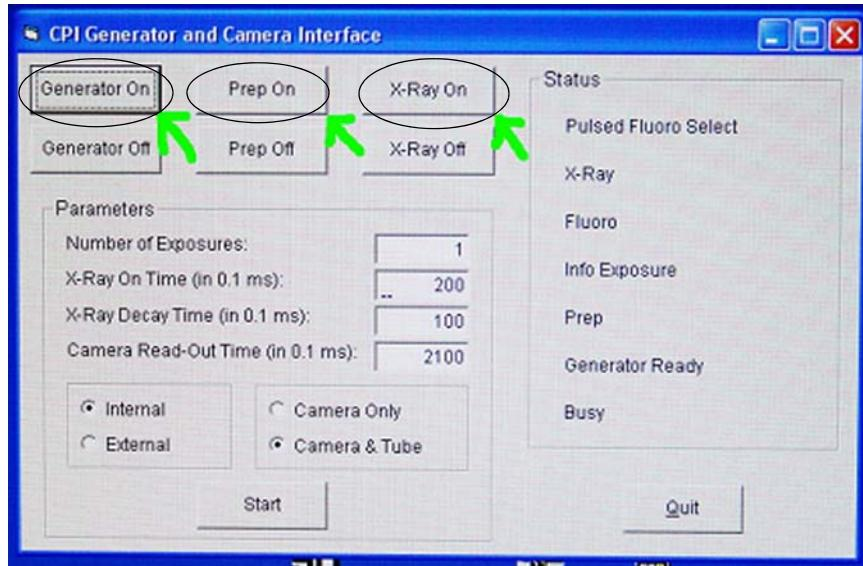

Figure 8-16
6. Click “Generator On” to turn on the CPI generator. (Figure 8-16)
10. At the Console computer, click “Prep On” and “X-Ray On” in the CPIGeneratorCameraInterface.exe window (within the VNC window). (Figure 8-16)